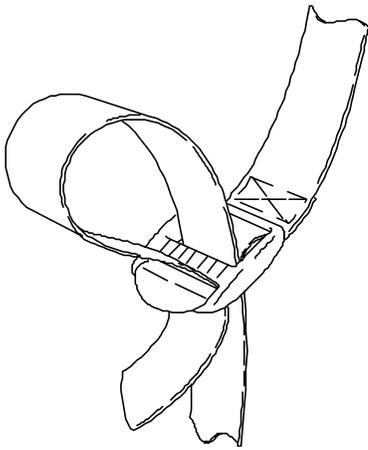

FIGURE 2 - PROPER METHOD OF THREADING FRICTION BUCKLES.
4. Thread the strap ends through the buckles provided (FIGURE 2) and take up the excess slack.
*NOTE: A minimum of two (2) straps are required in the center and two (2) each at the head and foot.*